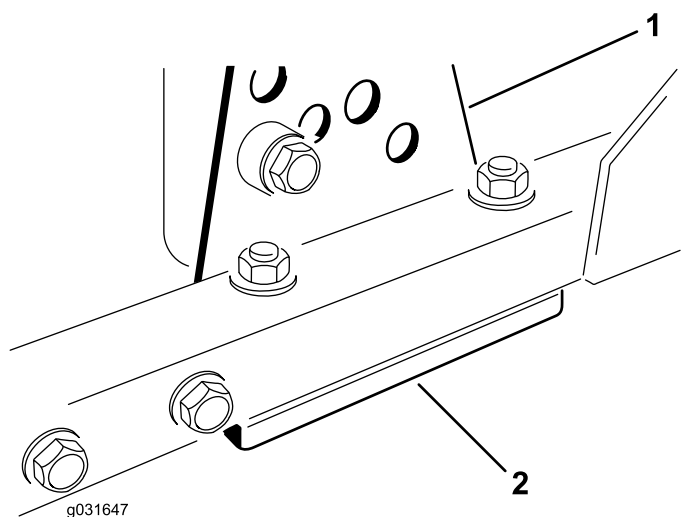

Figure 70
1. Remove the height-of-cut bracket (front, left, or right) from the deck frame (Figure 70).
2. Adjust the 1.5 mm (0.06 inch) shims and/or 0.7 mm (0.03 inch) shim between the deck frame and bracket to achieve the desired height of cut (Figure 70).
3. Install the height-of-cut bracket to the deck frame with the remaining shims assembled below the height-of-cut bracket (Figure 70).